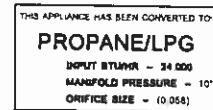

Figure 30
Step 11. Attach appropriate conversion kit label (*Figure 30*) to the rating plate on the appliance.